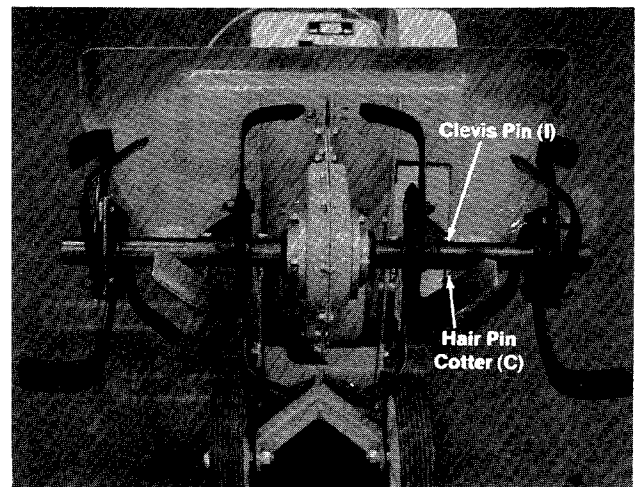

FIGURE 15.
Remove the outer tine assemblies and turn around so that the sharp edge of the tines enter the soil first. Secure with clevis pins (I) and cotter hair pins (C). See figure 15. See cultivating page 11.